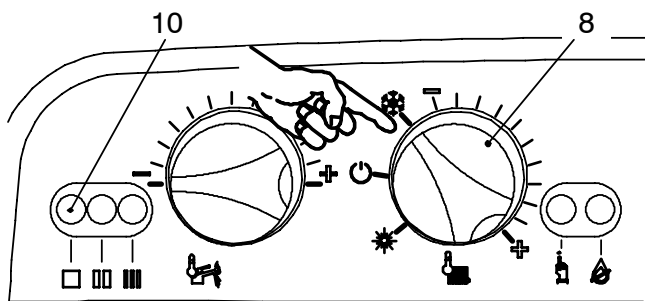

Fig. 2.4
- 2 Turn on the electricity supply to the boiler, switching on the fused spur isolation switch. The appliance operation light 10 (Fig. 2.4) will flash every 4 seconds (stand-by condition).
- 3 If the boiler is to be used for c.h. and d.h.w, position the function selector 8 as in Fig. 2.4. The appliance operation light 10 will flash every 2 seconds (operating boiler).